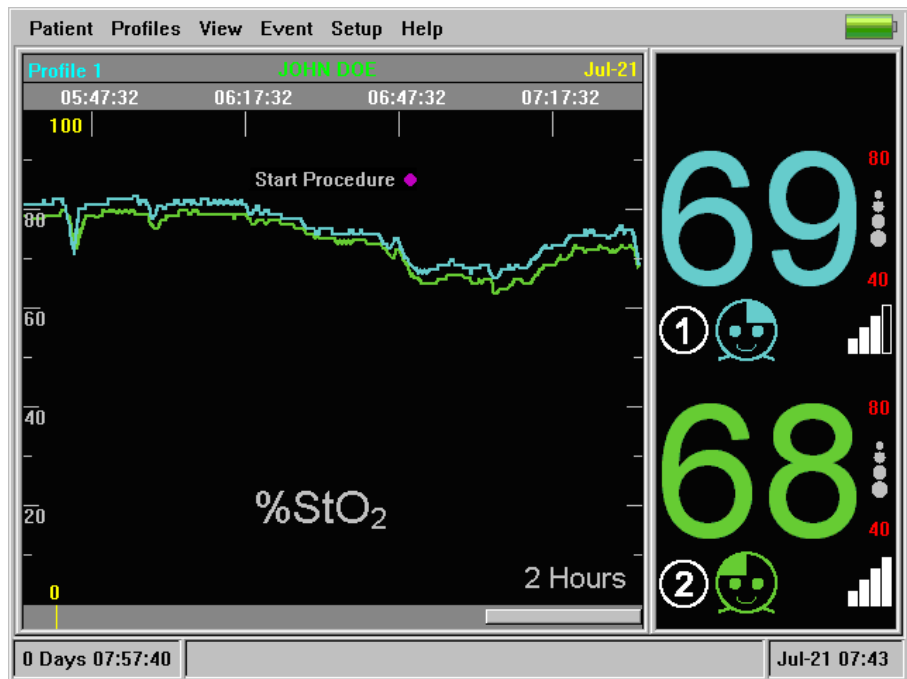

Figure 38: Final Position of Event
- 4 Press the rotary knob once more to place the Event on the trace where the two lines intersect (see Figure 38 below).